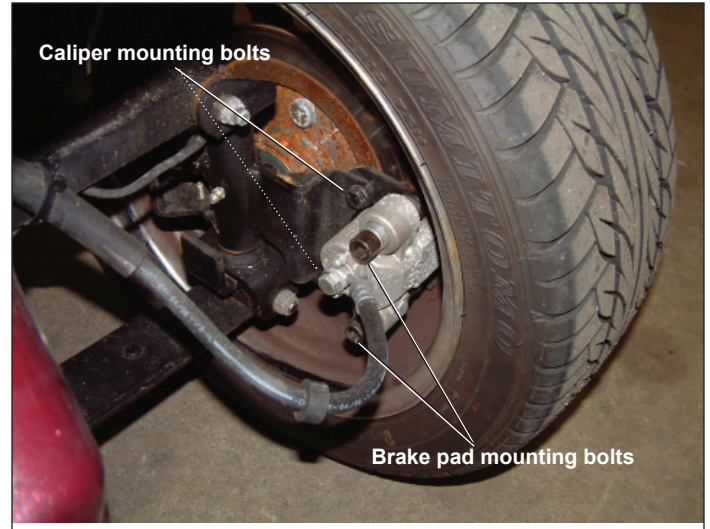

Figure 5-10. Hydraulic Parking Brake Adjustment
4. Disengage the brakes and remove brake caliper mounting hardware (Figure 5-10).
5. Remove brake pad mounting bolts (Figure 5-10).
5. Remove brake pad mounting bolts and brake pads (Figure 5-10).
4. Remove brake caliper mounting hardware and brake caliper (Figure 5-10).